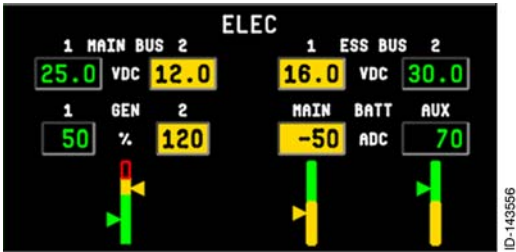

Figure 6-10
- **Electrical Status Displays** – The electrical status displays, as shown in Figure 6-10, consists of three sets of displays for the main bus one and two, the essential bus one and two systems, the batteries, main and auxiliary.